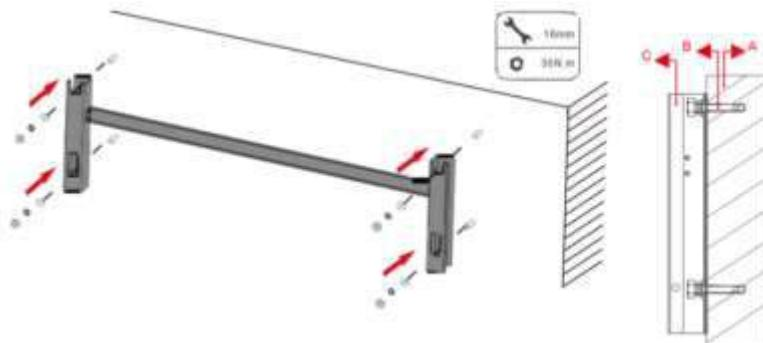

Fig. 4-18 Fix the mounting-bracket
- 4) Fix the mounting-bracket with the expansion bolts (Fig. 4-18 and Table 4-3).